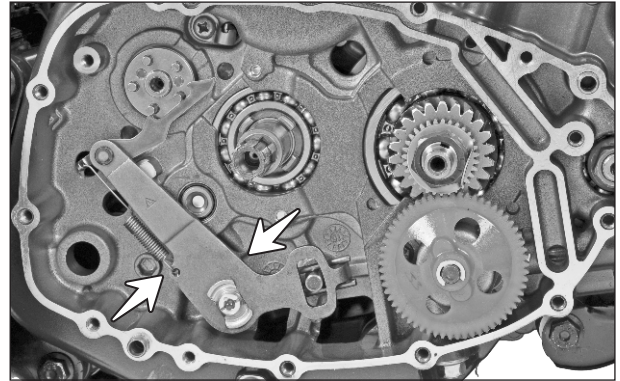

Fig. 3.116
- Carefully pull out the shaft complete gear shift. (Fig. 3.116)